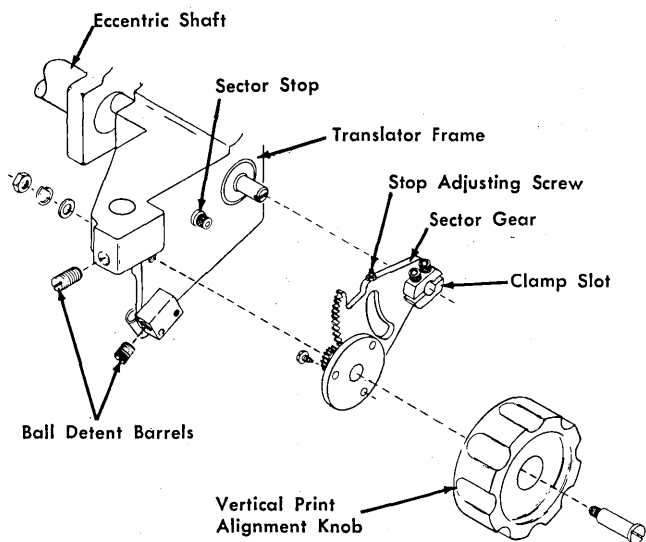

Figure 4-20. Vertical Print Alignment Knob
1. Position the eccentric shaft (Figure 4-20).